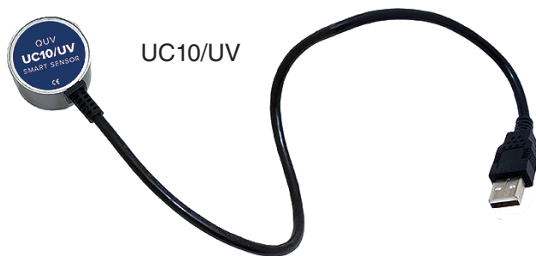
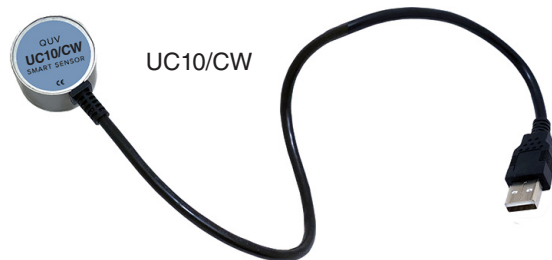

Figure 11.1a: UC10/UV Smart Sensor.
Figure 11.1b: UC10/CW Smart Sensor.
- Irradiance is calibrated with a UC10/UV or UC10/CW Smart Sensor (Figure 11.1a and Figure 11.1b).